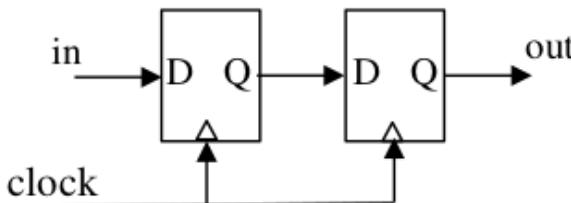

Fig. 5.7
7. Consider the sequential circuit shown in Fig. 5.7, where both flip-flops used are positive edge-triggered D flip-flops.